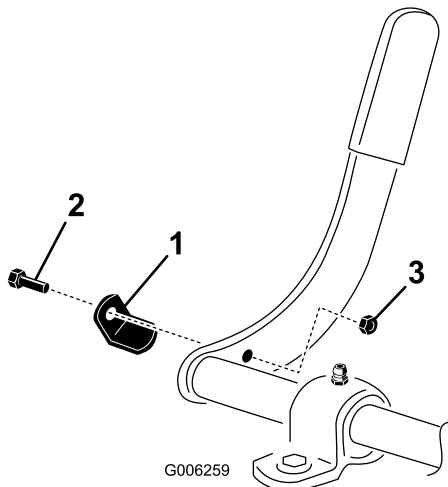

Figure 12
11. Mount the PTO switch actuator bracket to the PTO lever with a cap screw and nut. Position the bracket as shown in Figure 12.